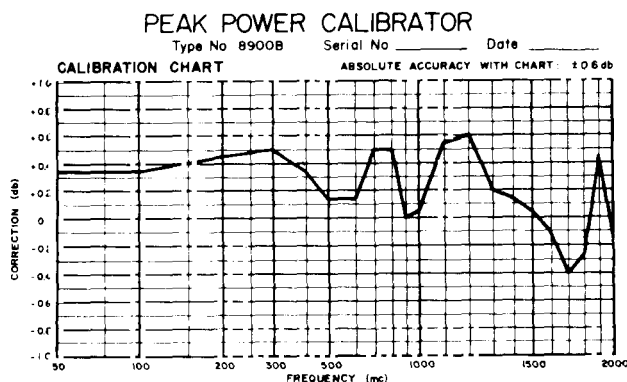

Figure 3-5. Typical Custom Calibration Chart
- Input VSWR reflection error. The typical input VSWR over the 8900B frequency range is shown in Fig. 3-5.
3-31. The Custom Calibration Chart (Fig. 3-5) supplies correction for errors attributable to the frequency sensitive components in the RF circuitry of the instrument. This chart information is obtained by maintaining a constant 100 mw (0 db) input to the Peak Power Calibrator and plotting the required meter correction over the frequency range as measurements are made.